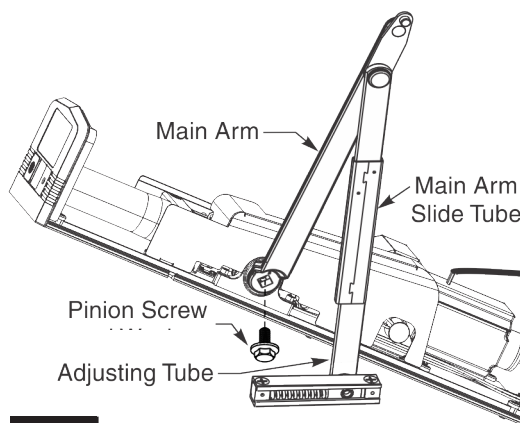

Figure 20
1. With door open, slide main arm slide tube into adjusting tube. (Figure 20)
2. Place square of main arm onto closer pinion. (Figure 20)
3. Attach main arm to pinion with screw then tighten with 7/16" wrench. (Figure 20)